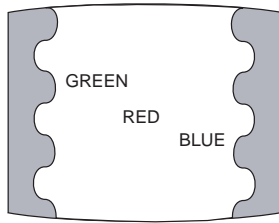

Fig. 3-4
5. Move the deflection yolk backwards and adjust with the purity magnet so that the green is at the centre and it aligns symmetrically. [See Fig.3-4].